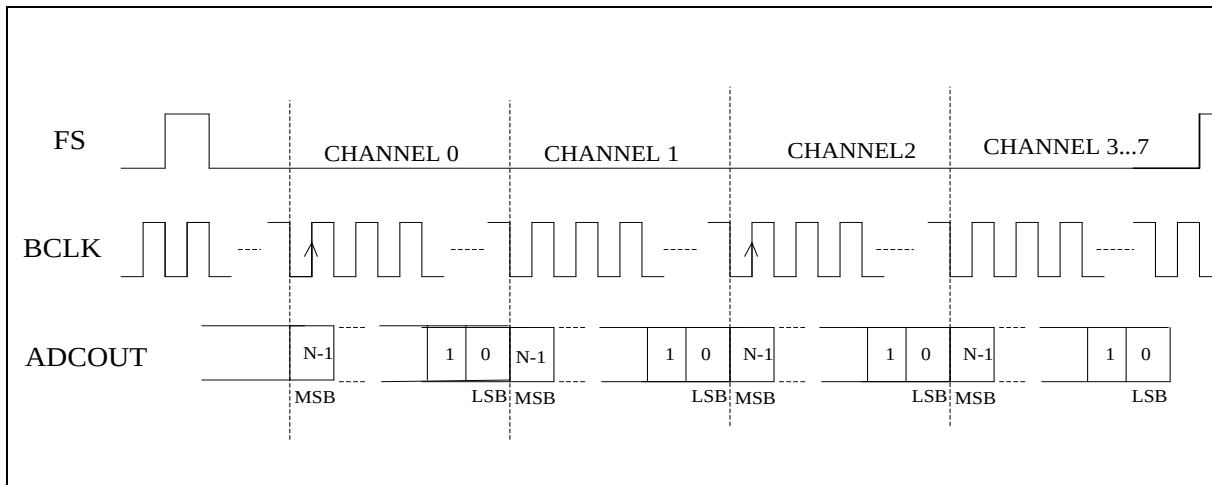

Figure 39 PCM Time Offset Audio Data
Normally, the DAC and ADC data are clocked immediately after the Frame Sync (FS). In this mode, audio data are delayed by a delay count specified in the device control registers. The Channel 0 MSB is clocked on the BCLK rising edge defined by the delay count set in [LEFT_TIME_SLOT_TSLOT_L0_REG0XF\[9:0\]](#). The subsequent channel's MSB is clocked on the next BCLK after the LSB of the previous channel. This can be seen in **Figure 39**.